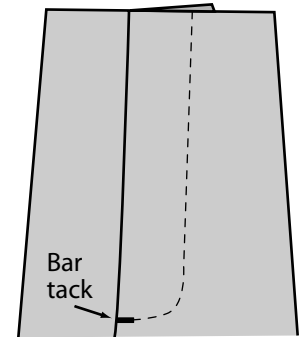

Figure 33
5. On right side of fabric, topstitch fly opening. Stitching does not have to sew through zipper tape, only seam extension. (Figure 33)